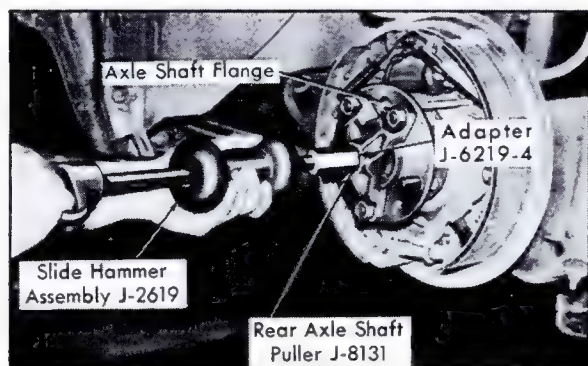

Fig. 4-29 Removing Rear Axle Shaft
3. Install Axle Shaft Puller, J-21579, on studs of rear axle shaft flange. Install Adapter, J-6219-4, on Slide Hammer Assembly, J-2619, and install assembly in puller, Fig. 4-29.